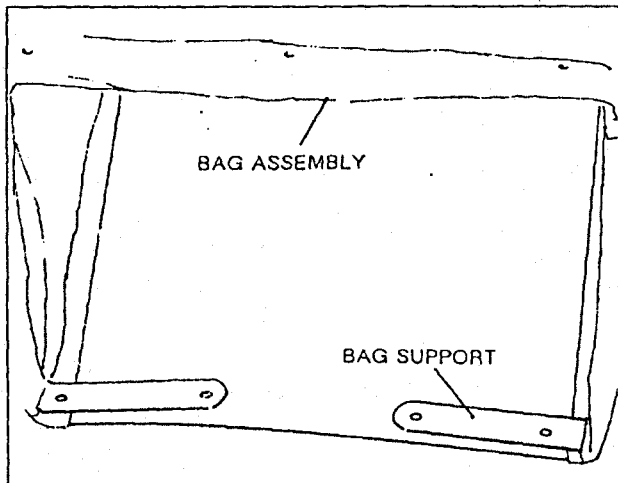

Fig. 1
1. Slide bag support through hem in bag assembly (Fig. 1). Be sure holes in bag support and bag assembly align. If holes do not align, bag support is in backwards and must be removed and turned around.